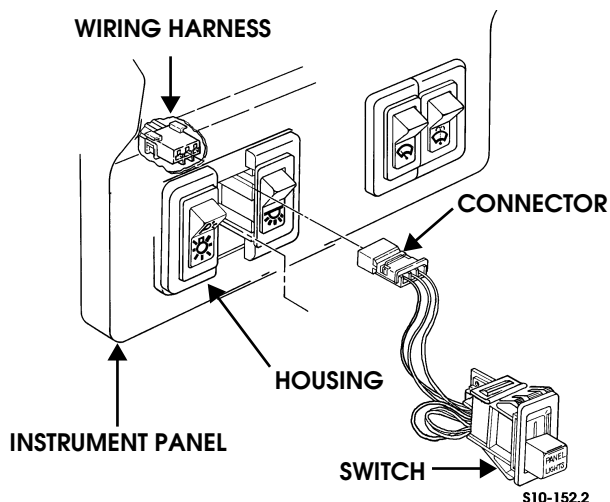

Figure 2-88: Instrument Panel Dimmer Control Switch Replacement
3. Unplug connector from wiring harness (Figure 2-88).
2. Install switch in switch housing (Figure 2-88).